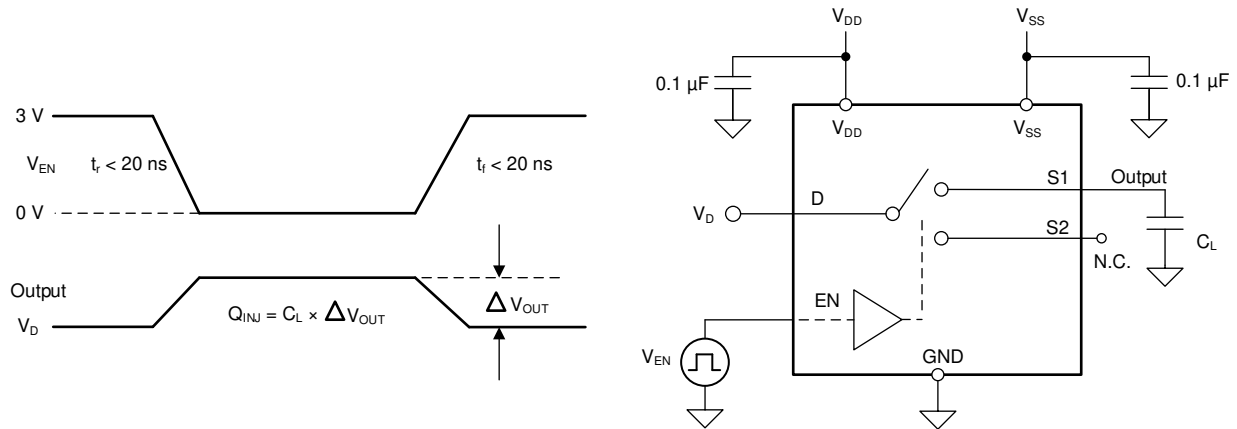

图 7-9. Charge-Injection Measurement Setup
The TMUX7219-Q1 has a transmission-gate topology. Any mismatch in capacitance between the NMOS and PMOS transistors results in a charge injected into the drain or source during the falling or rising edge of the gate signal. The amount of charge injected into the source or drain of the device is known as charge injection, and is denoted by the symbol Q_C . 图 7-9 shows the setup used to measure charge injection from source (Sx) to drain (D).